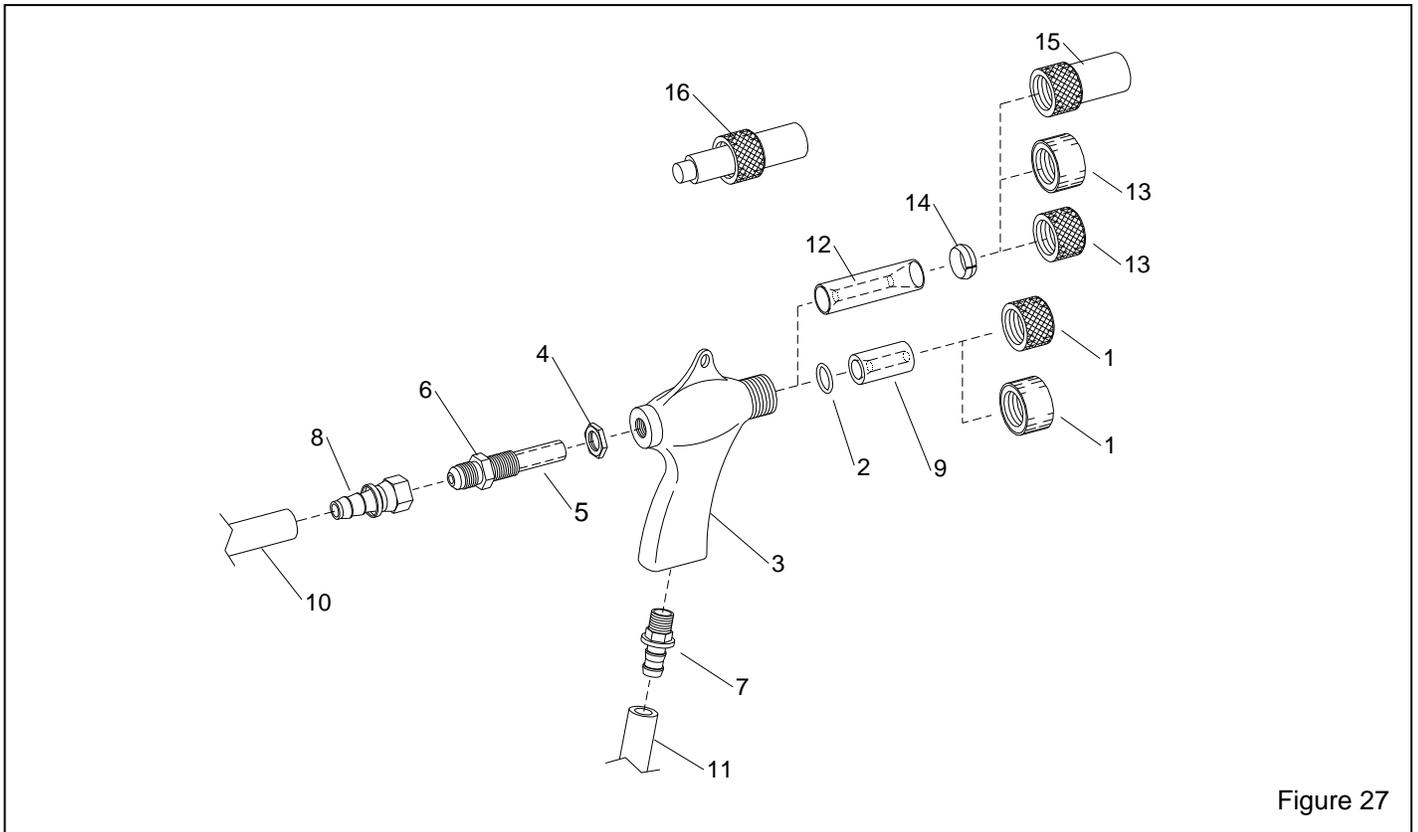

Figure 27
9.3 BNP Gun and Feed Assembly, Figure 27